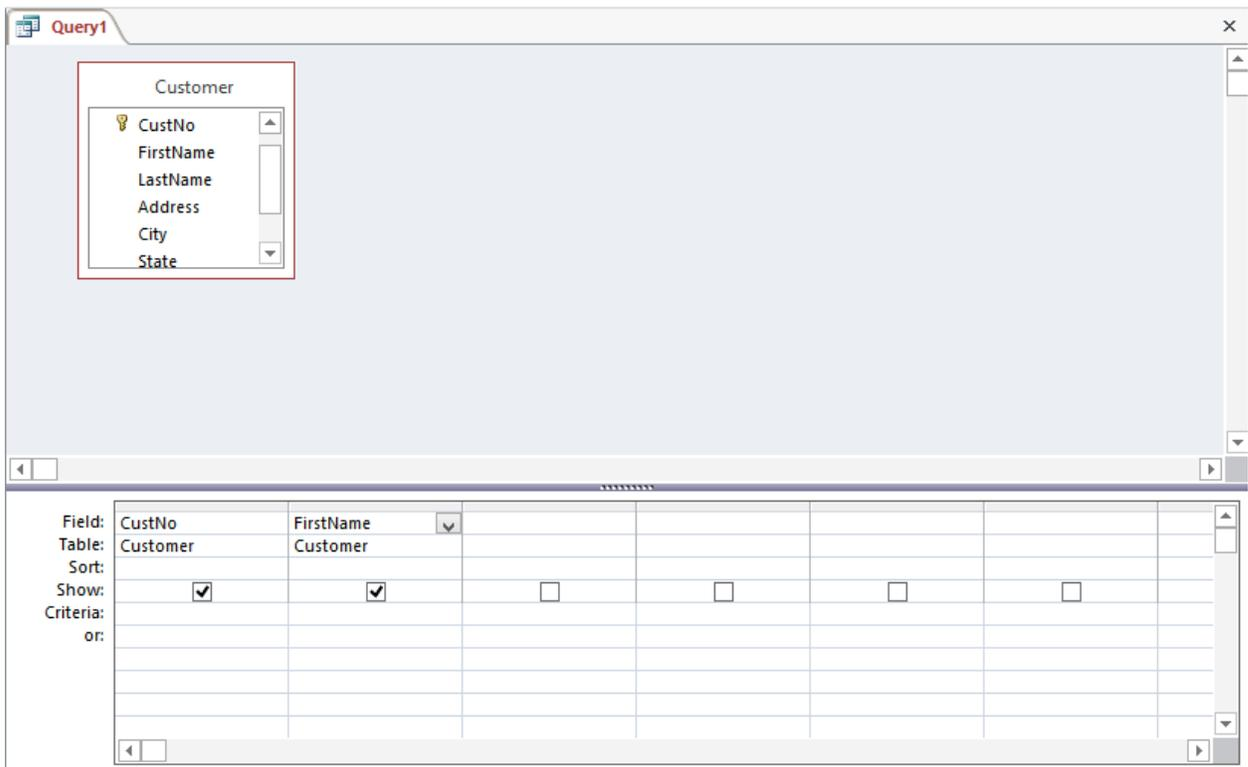

Figure 4: First Two Fields in Query Design View
4. Drag Fields into the New Query: To obtain query results, you must put some *Customer* field names into the empty field spaces of the query table. Drag and drop² the *CustNo* field name from the *Customer* table to the first column and row in the empty query table. After releasing the mouse button, the field name appears in the grid. Repeat the process to place the *FirstName* field in the next empty column of the first row (see Figure 4).
5. Use a Different Field Selection Technique: To place the next field, *LastName*, use an alternative method. This time, just click into the next empty column of the first row and a small gray arrow appears (see Figure 4). Click the arrow and a list of the *Customer* fields appears. Select *LastName* from the list.